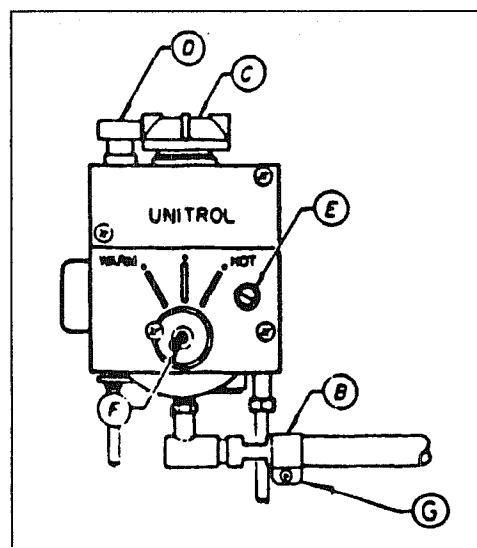

Fig. 1
3. Depress reset button (D) (Fig. 1) on thermostat.
6. Turn gas cock to "ON" position (C).
7. Set temperature indicator (F) (Fig. 1) to desired temperature.